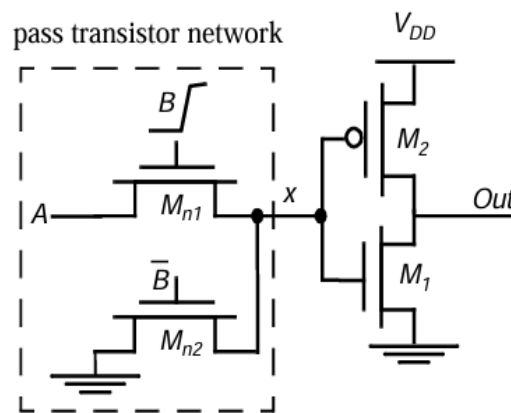

Fig. 2
Q.2 Consider the circuit of Fig. 2. Assume the inverter switches, ideally at $V_{DD}/2$, neglect body effect, channel length modulation, and all parasitic capacitance throughout this problem.